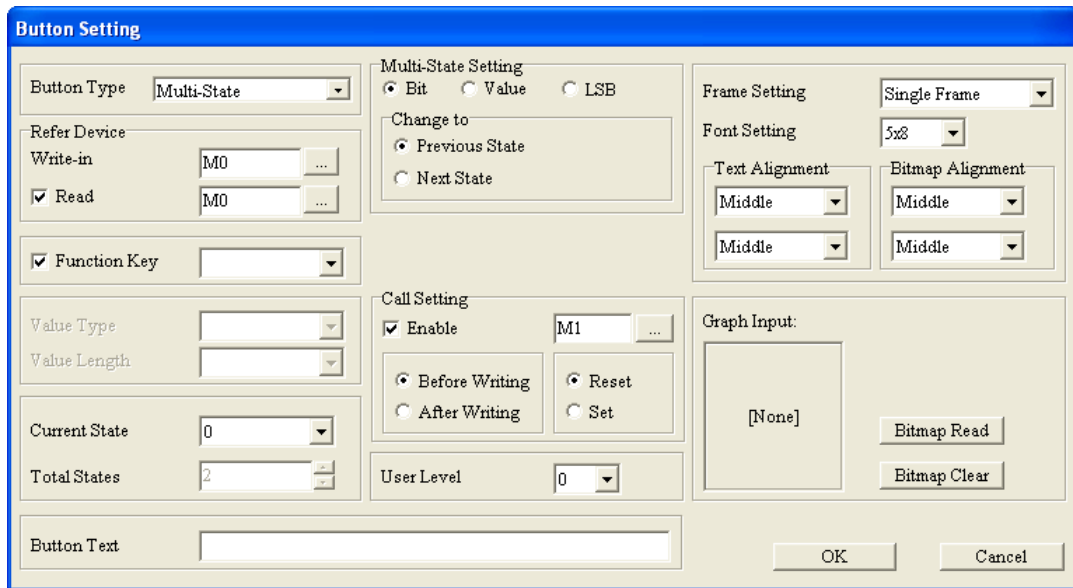

Figure 4-59 Button Setting window
- If **Multi-State** is selected, the **Button Setting** window will be as shown in Figure 4-59.